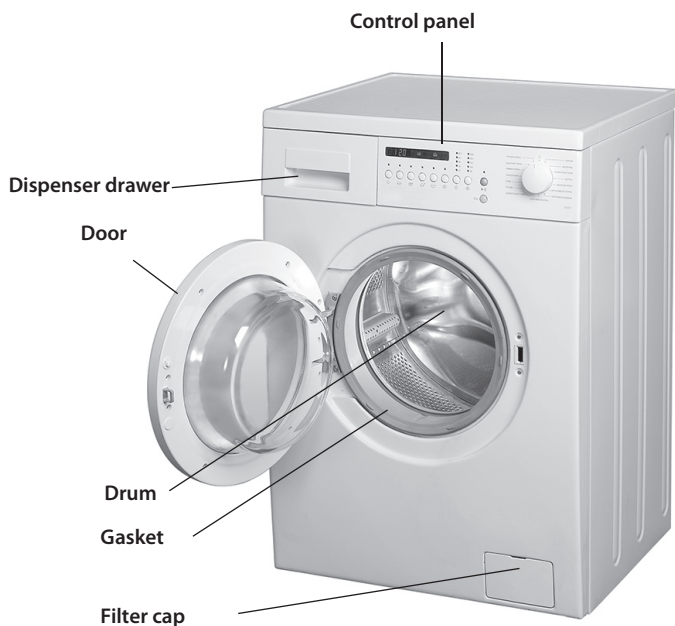

Figure 1
1.1 In accordance with figure 1 the automatic washing machine (hereinafter referred to as the machine) is intended for washing textile goods, sports footwear with the use of synthetic washing means of low foaming, as well as for rinsing and wringing out. All operations of treating the goods are automatically performed in compliance with the preset program.
ATTENTION! In avoidance of machine damage do not move it by taking a chute, the door or seal in accordance with fig.1. For machine transportation the tank is fixed with blocking screws.